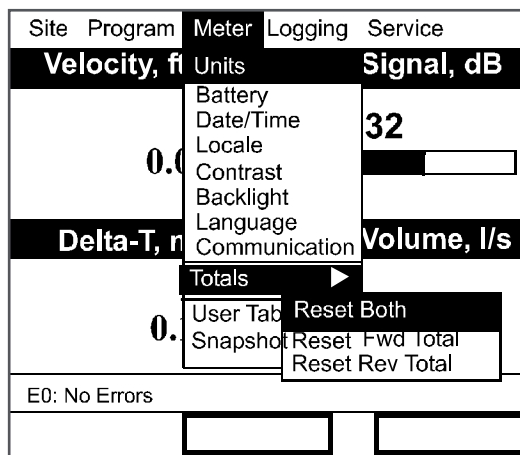

Figure 109: The Resetting Totals Menu
1. From the Meter menu, scroll to the Totals entry and press **[ENTER]**. The window now appears similar to *Figure 109*.